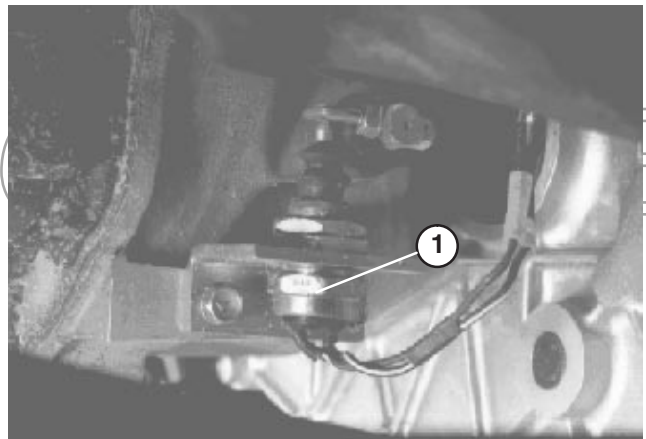

Figure 40
7. Recheck clutch safety switch adjustment (Fig. 40). Engine must not crank unless clutch pedal is 1.25” ± .12” from floor. If an adjustment is required, loosen switch jam nuts and adjust up or down.